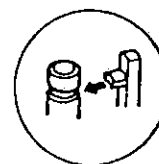

Figure 1-63.
1. Use care not to deform the parts hooked to the take-up loading gear and supply loading gear as shown in Figure 1-63.